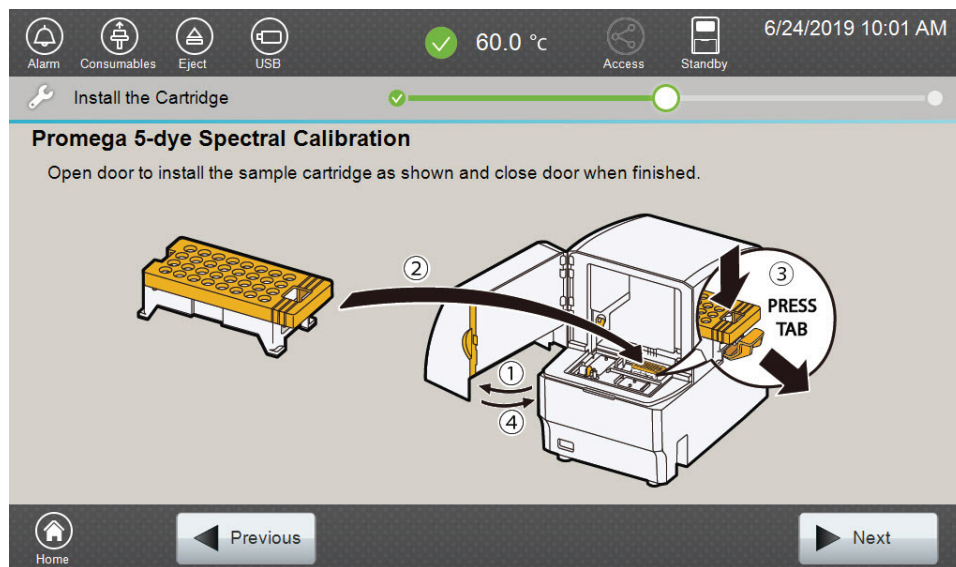

Figure 36. 'Install the Cartridge' screen.
- Open the front door of the Spectrum Compact CE System and mount the sample cartridge on the autosampler by following the instructions displayed on the 'Install the Cartridge' screen (Figure 36).